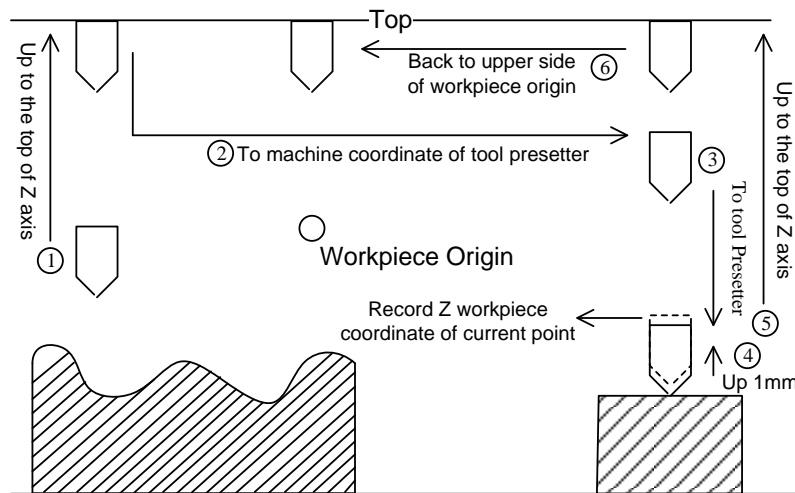

Fig. 3-20 First presetting
- Secondly, press F4 [Preset], and then press F4 [First Time] to execute the first presetting in the new pop-up manipulation button bar, and the system will record the current workpiece coordinate value of Z axis automatically, as shown in Fig. 3-20. The system ends this process automatically.